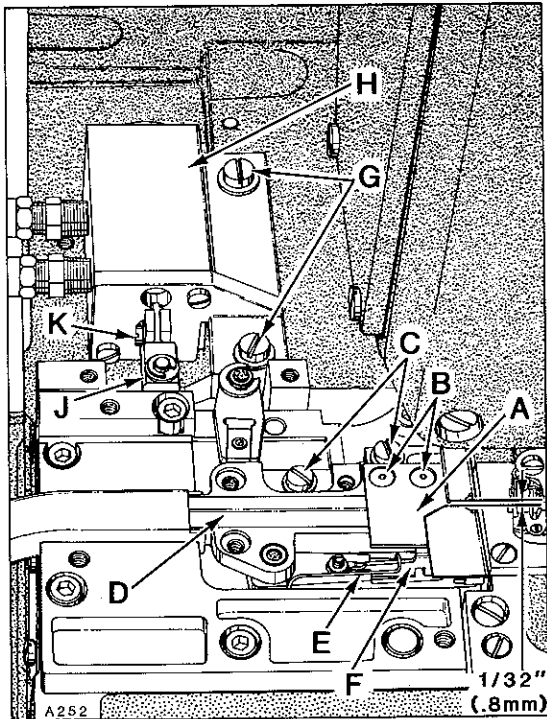

Fig.27
Upper knife (A, Fig. 27) can be replaced by removing two screws (B). To replace lower knife, the upper knife must be removed and rear suction tube cover. Loosen two screws (C) and slide housing (D) towards the rear. Remove throat plate support with throat plate attached. Remove screw (A, Fig. 28) and lift up thread inlet (B). Unhook knife spring (E, Fig. 27) and remove lower knife (F). Reassemble knives in reverse manner. Reassemble thread inlet (B, Fig. 28) and slide housing (D, Fig. 27) forward against rear of throat plate; tighten two screws (C).
**IMPORTANT:** Be sure that lower knife does NOT strike against knife housing or feed chamber cover. Adjustment should be accomplished by loosening two screws (G, Fig. 27) and reposition air motor (H) left or right slightly, but under extreme circumstances it may become necessary to shorten the stroke of lower knife travel by repositioning coupling (J).